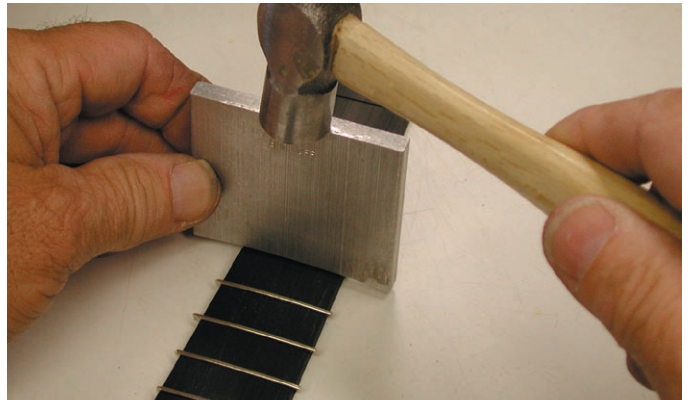

Fig. 3
**NOTE:** There are several methods of fretting. One method is to bind the fretboard first and then notch the ends of the fretwire so that the crown of the fretwire lays on the binding. The other method (Fig. 3) is to install the frets first, file the frets flush to the edge of the fretboard, install the binding, and then file/scrape/shape the binding so that it is flush to the surface of the fretboard and to the ends of the fretwire.